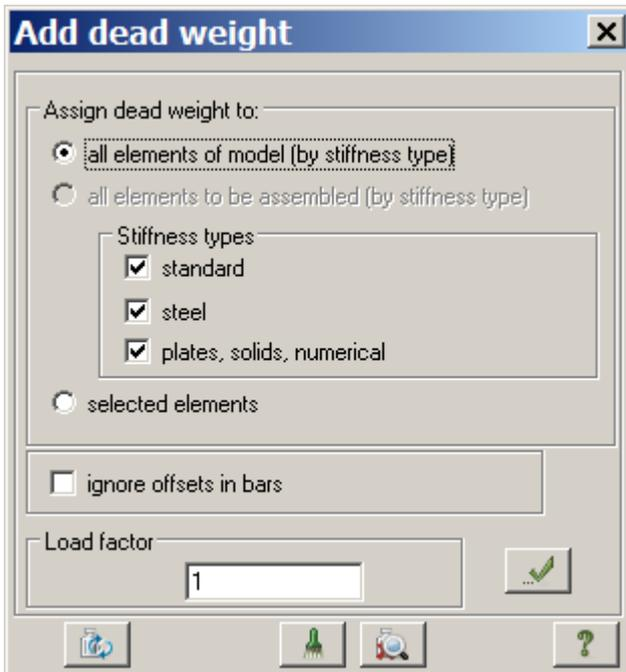

Figure 21.16 **Add dead weight** dialog box
- ⇒ In the **Add dead weight** dialog box (see Fig.21.16), click **All elements** and specify **Load factor** as equal to **1**. Then click **Apply**  (dead weight is automatically applied to elements).